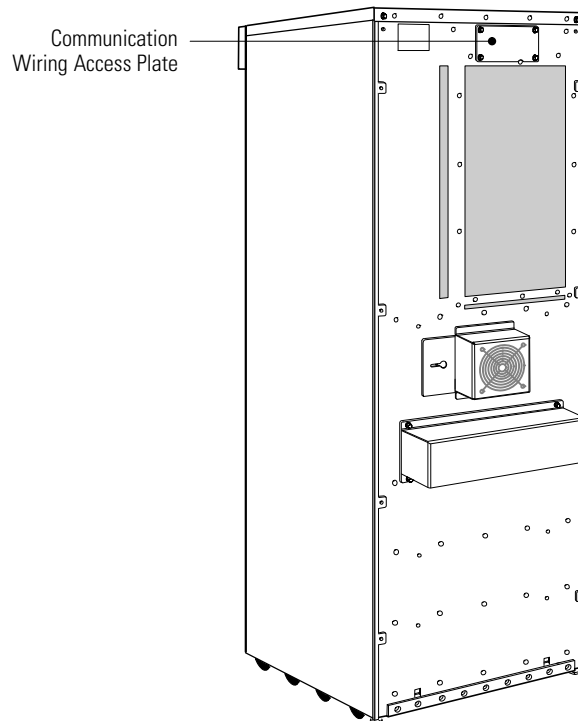

Figure 48. Communication Wiring Access
2. Remove the communication wiring access plate from the UPS rear panel and punch a hole in it using a Greenlee punch or similar device (see Figure 48).